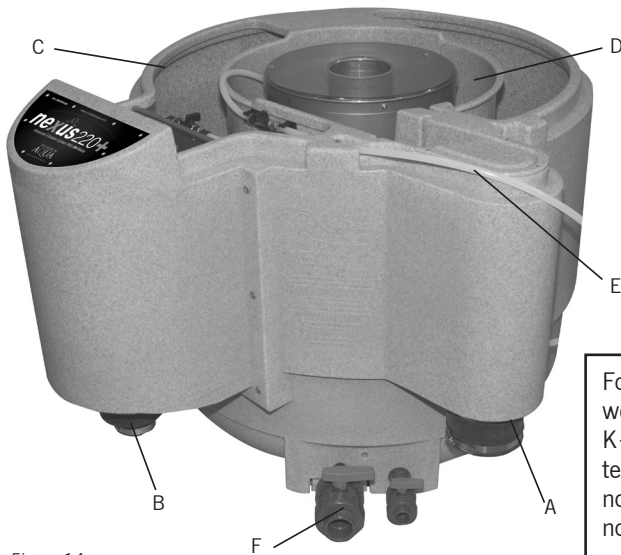

Figure 14.
1. Connect the pipework from your pond to the EazyConnector on the Nexus Inlet (A).
2. Connect your water pump to the 4"- 2" EazyConnector (B) on the outlet using suitable pipe work. A valve should be positioned between the pump and the Nexus, to isolate the Nexus during cleaning.
3. Pour the 50L K+Media bag into the outside chamber (C) of the Nexus (Figure 14).
4. Connect your air pump to the Nexus air inlet (E).
6. Connect the waste valves (F) to your waste outlet.